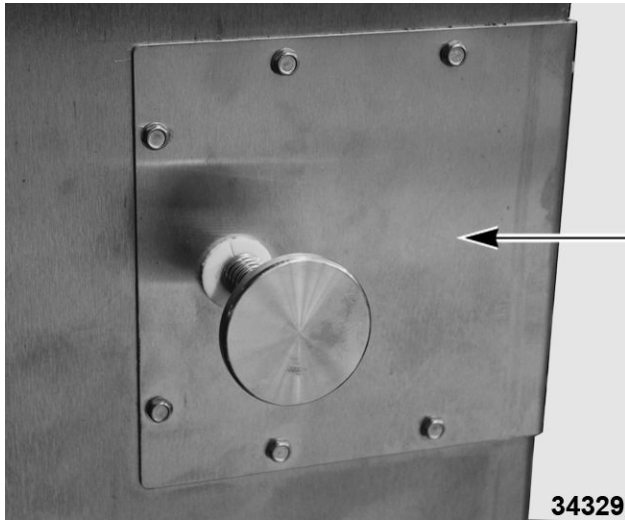

Fig. 89
A. Remove inner door handle cover (Fig. 89).